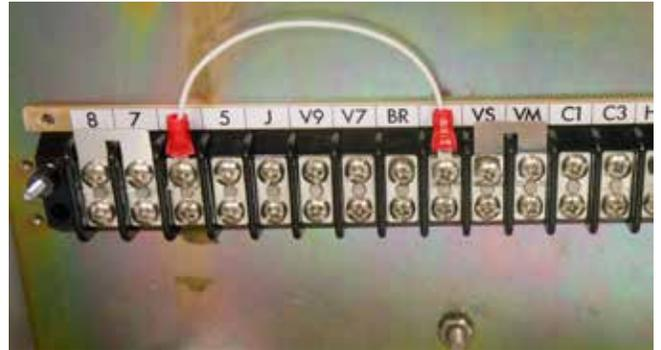

Figure 4. Jumper installation locations.
11. Install a 2-position jumper between terminals **7** and **8**. See Figure 4 and Note 1.
12. Install another 2-position jumper between terminals **VS** and **VM**. See Figure 4 and Note 2.
13. Install the jumper wire between terminals **6** and **G**. See Figure 4 and Note 1.